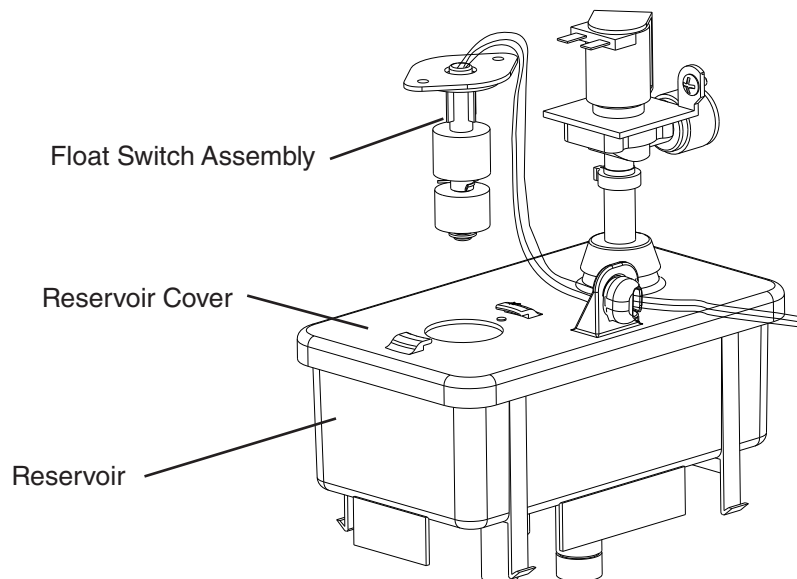

Fig. 8
- 5) Remove FS assembly from the reservoir cover. See Fig. 8.
- 7) While not necessary, the floats can be removed from the shaft during cleaning. If you remove them, note that the blue float is on top. The floats must be installed with the magnets inside them towards the top of the switch. See Fig. 8. Installing the floats upside down will affect the timing of FS operation.